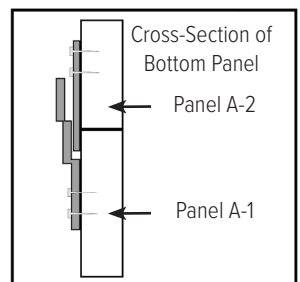

Figure 3.2.4
3.2.4 Place Panel "A-2" flush on top of Panel "A-1" as shown in Figure 3.2.4. Fasten the top of the panel to the cab shell. Repeat steps for panels A-3 and A-4.